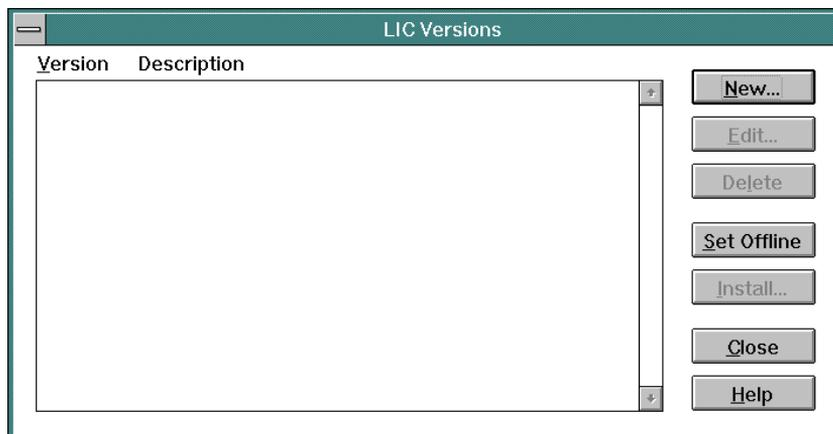

Figure 164. Blank LIC Versions Dialog Box
3. Type a maintenance authorization password (default is **LEVEL002**) and click the *OK* button. The *LIC Versions* dialog box appears (Figure 164).